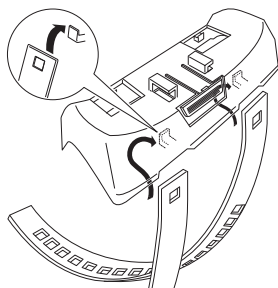

Fig. 15
1. Hook the belt on to the holder. (Fig. 15)